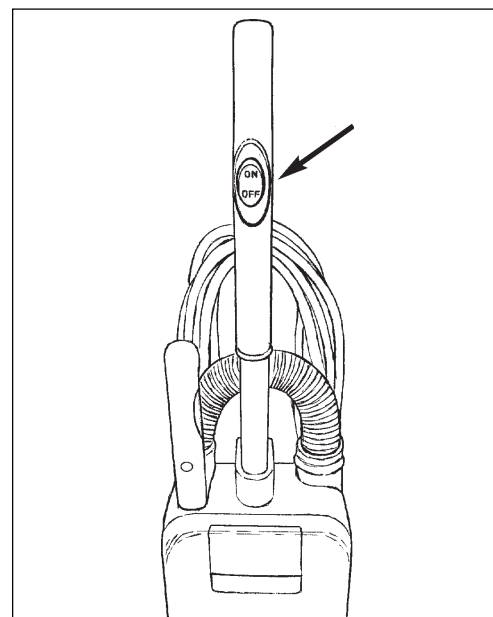

Figure 9
The ON/OFF Switch (See figure 9)
3. Put the ON/OFF switch in the "I" position (see figure 9).